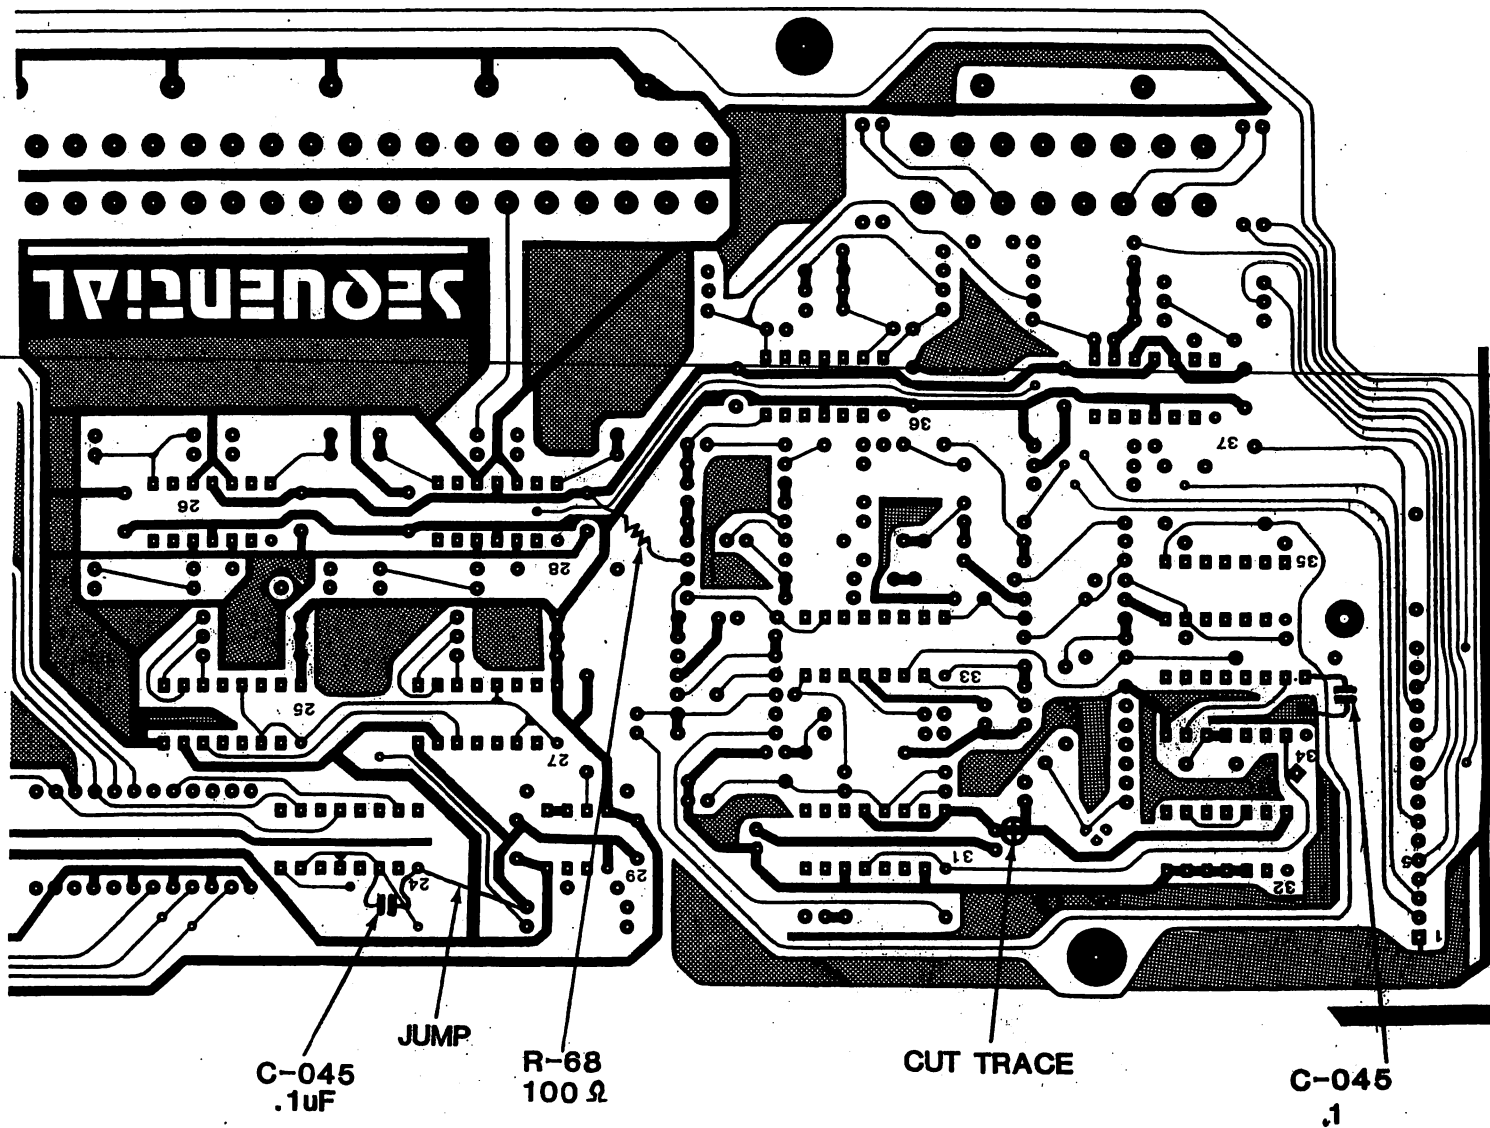

Figure 5 Solder side traces
4. Refer to Figure 5, Solder side traces, and perform the following steps: